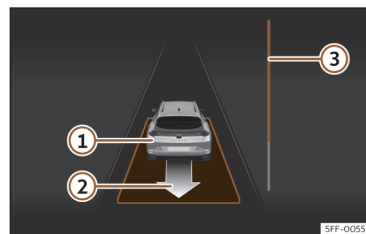

Fig. 161 On the instrument panel display: driving off from perpendicular parking.
- Reverse until the continuous ParkPilot signal sounds; **OR:** reverse until the instrument panel display shows the forward indication. The progress bar >>>  **Fig. 161**  indicates the distance to cover.